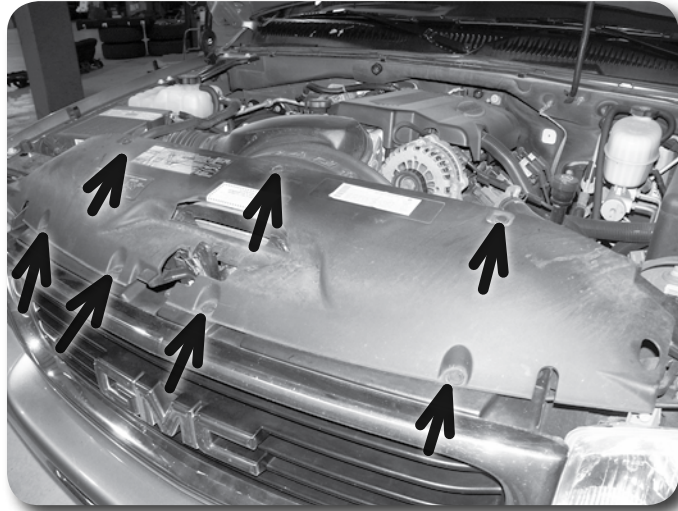

Figure 1
2. Remove the 7 plastic clips that mount the upper plastic core support cover to the core support **Figure 1**. Pull up on the center of the clip with a flat blade screw driver and then pull the clip out of the hole. Remove the cover from the vehicle. Save clips and cover.